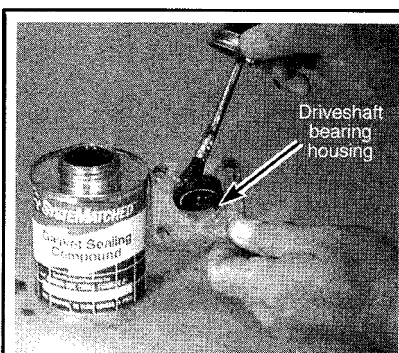

Fig. 102 For dual back-to-back seals with metal casings, apply a light coating of sealant to the seal cases or their mating surface in the bearing housing
- ◆ See Figures 102, 103 and 104